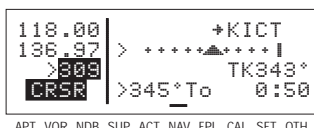

Figure 4-99
4. If you desire to change the selected course while in OBS mode, turn the right inner knob while the cursor is over the mode annunciation (figure 4-99).